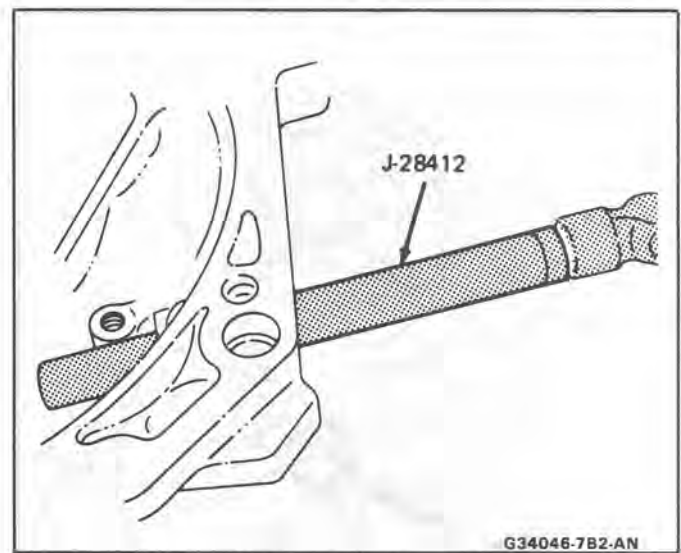

Fig. 47 Clutch Shaft Bushing
27. Install the clutch fork assembly if it has been removed. Install the bushing into the upper hole using J 28412 (Fig. 47). Install the oil seal next using J 28406. Install the clutch shaft cap. Before installing the bushing, apply grease to both the inside and outside of bushings.